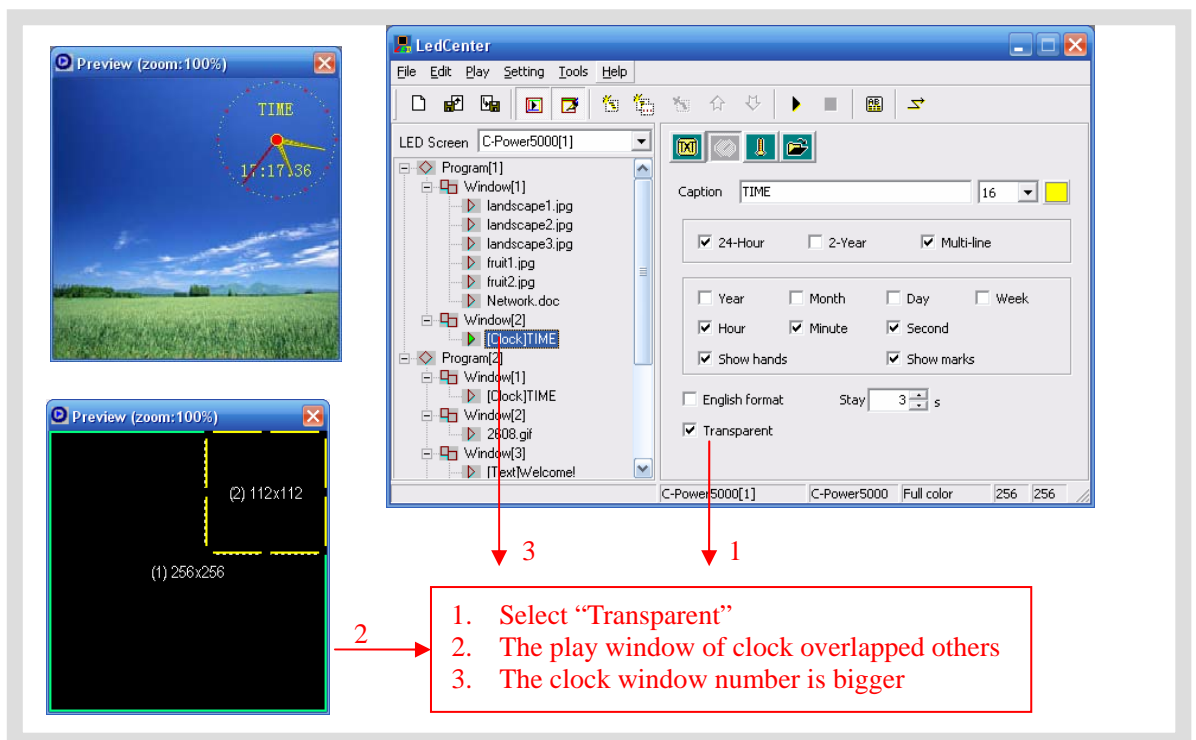

Figure21 Setting of transparent display of clock
- Clock transparent display: as shown in Figure21. User needs to set 3 places to achieve the transparent display effect.